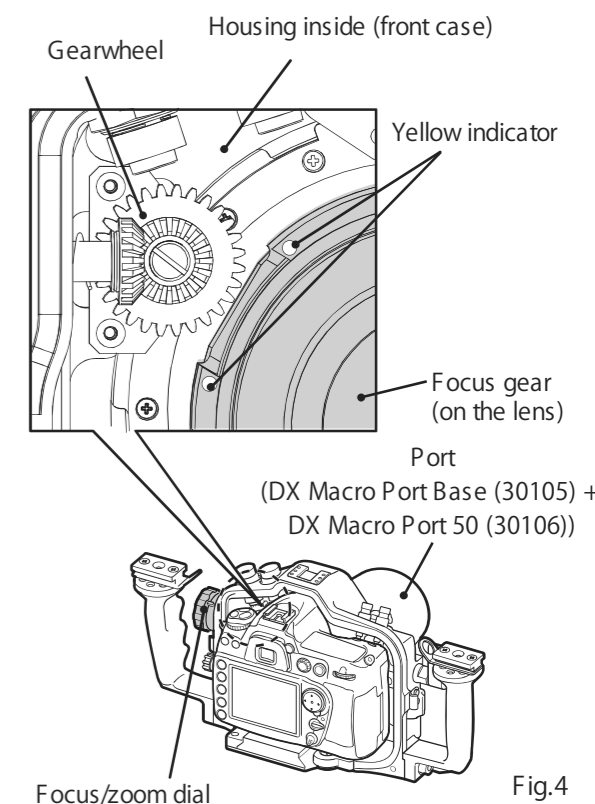

Fig.4
- 4 The gearwheel can only be passed in between the yellow indicators. Carefully slide the camera forward into the housing, while avoiding contact with the focus gear. (Fig.4)
- 1 Rotate the focus/zoom dial on the housing to align the yellow indicators to the gearwheel. (Fig.4)